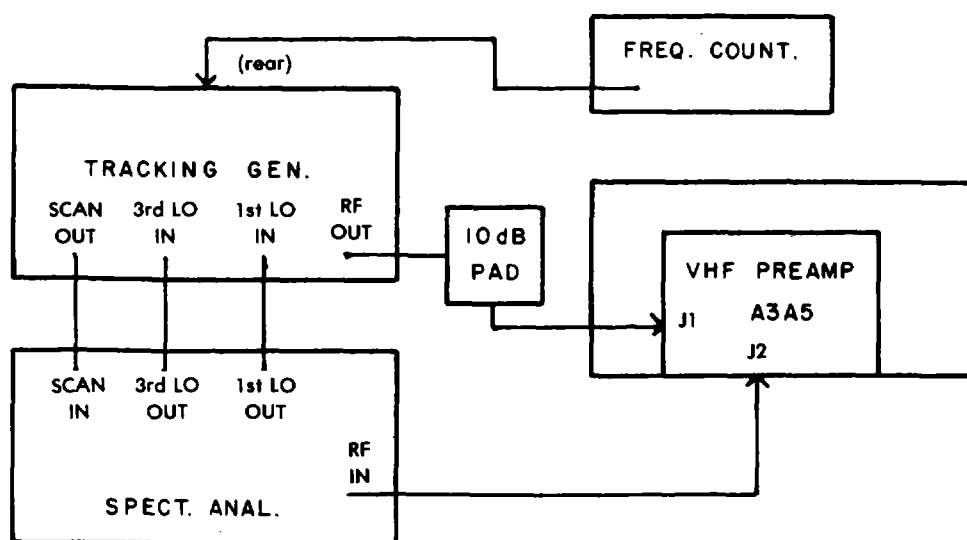

Figure 4-14. VHF Preamplifier Alignment, Equipment Connections
1. Entend the VHF Preamplifier module (A3A5) and connect the test equipment as illustrated in **Figure 4-14**.